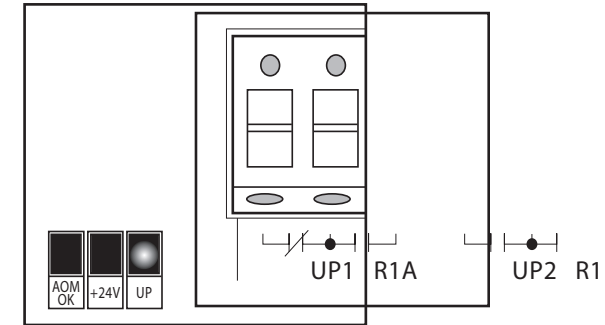

Fig. 5A AOM Board LED's
- IF Auxiliary Output Module is properly installed, the "+24V" and "AOM O.K." LED's will light. (**Fig. 5A**) (See also page 8—*Troubleshooting Section*.)